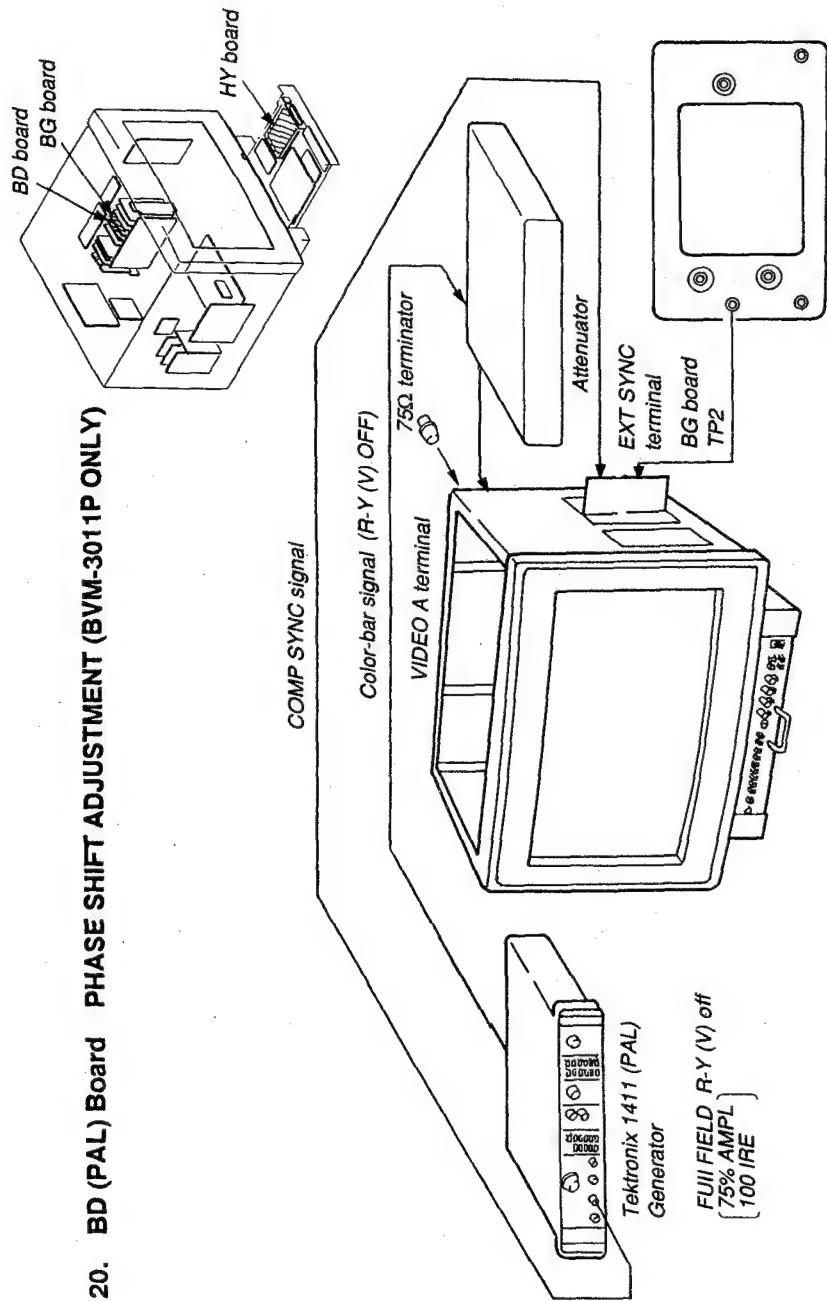

Fig. 20-1.
1. Complete the connection as shown in Fig. 20-1.